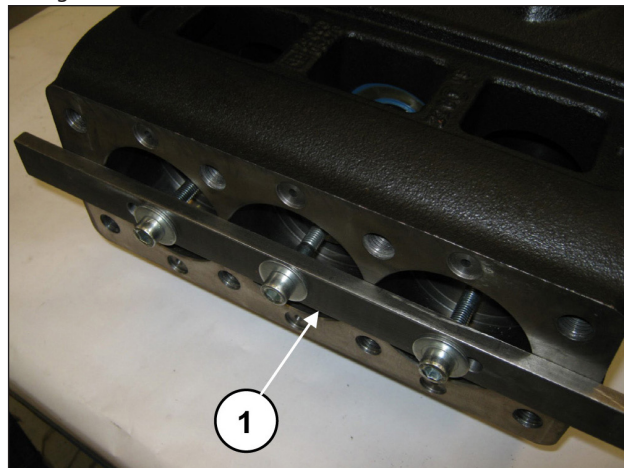

Fig. 19
Move the half-conrods completely forward in the direction of the hydraulic part to allow extraction of the crankshaft. To facilitate this operation, use special tool (code 27566200), (pos. ①, Fig. 19).